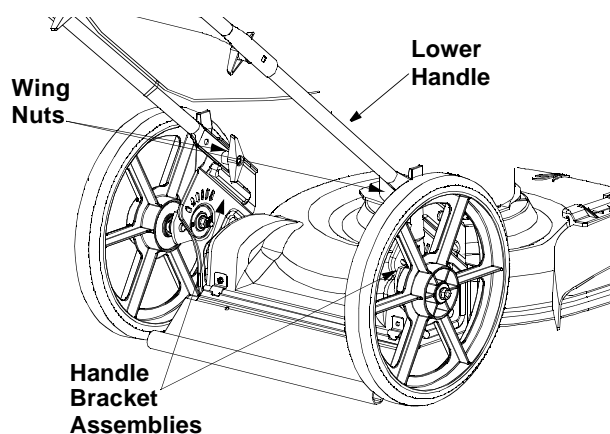

Figure 11
- Disconnect the handle from the handle bracket assemblies by removing the wing nuts. See Figure 11.